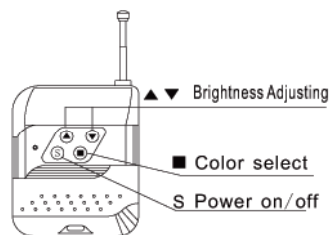

Fig.2
2. Use under with wireless remote control mode (see Fig.2):